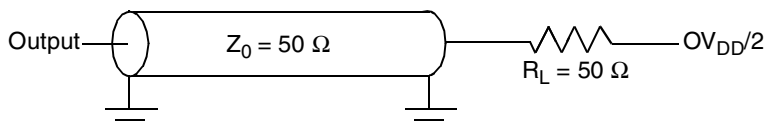

Figure 7. Alternate AC Test Load for the JTAG Interface
1. All outputs are measured from the midpoint voltage of the falling/rising edge of TCLK to the midpoint of the signal in question. The output timings are measured at the pins. All output timings assume a purely resistive 50- Ω load (see Figure 7). Time-of-flight delays must be added for trace lengths, vias, and connectors in the system.
Figure 7 provides the AC test load for TDO and the boundary-scan outputs of the MPC7447A.